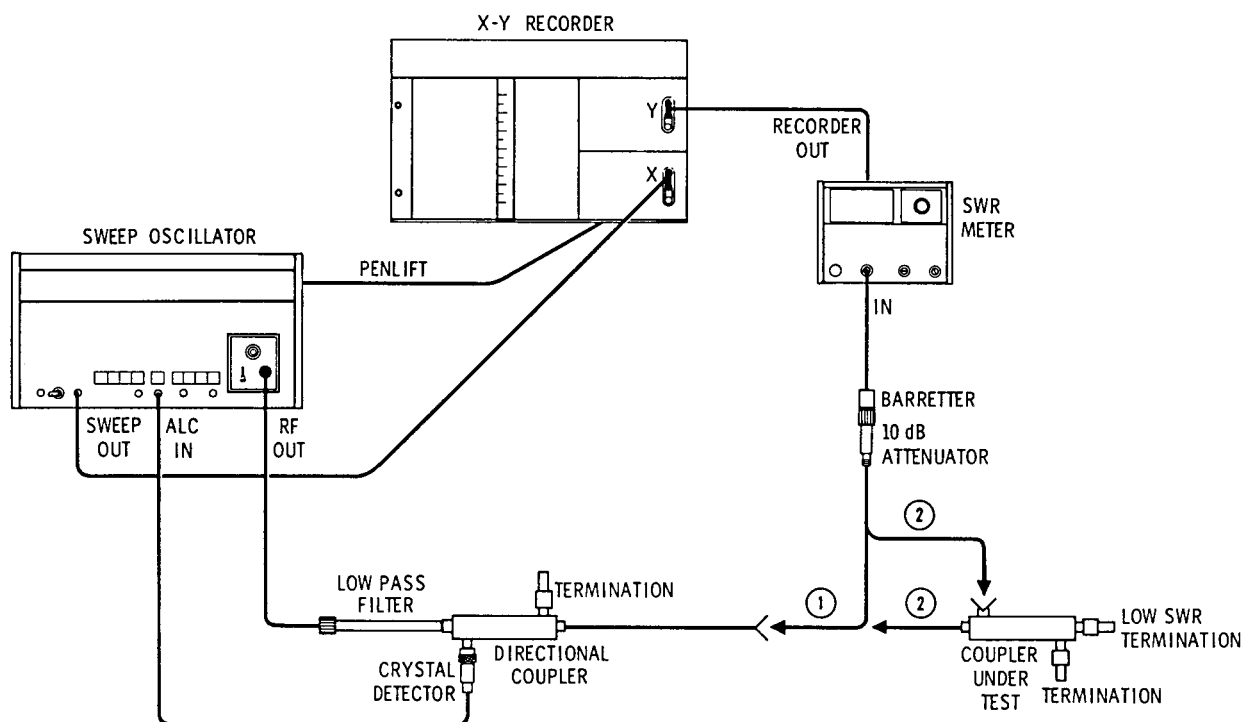

Figure 12 Coupling Test Setup
Description Refer to Figure 12 for test setup and for test equipment.
1. Connect the equipment as shown in (1) in Figure 12.
- a. Connect the coupler under test as shown at (2) in coupling test setup, Figure 12. This will insert the nominal 20 dB (down) coupling (attenuation) in the signal path.